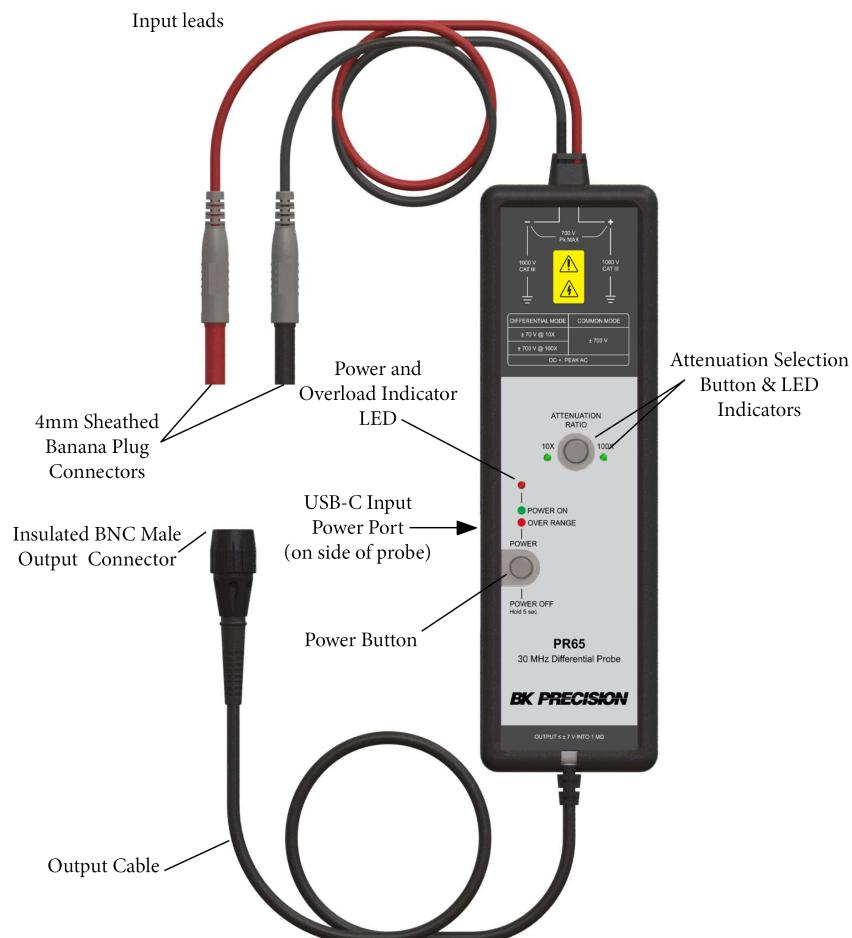

Figure 3.1 Probe and Supplies Accessories
Both probes are compatible with any oscilloscope with a $1 \text{ M}\Omega$ BNC female input and feature up to 30 MHz of bandwidth. The probes can be powered by any oscilloscope USB port, internal batteries (4 AA batteries included with the probe), or included mains power adapter. **Figure 3.1** shows some key features of the PR65 Series probe.
Step 2. OR, connect the USB power cord to the probe (see **figure 3.1** for the location of the input jack on the probe) and a USB port on the oscilloscope or to the Power Adapter plugged into a mains circuit.